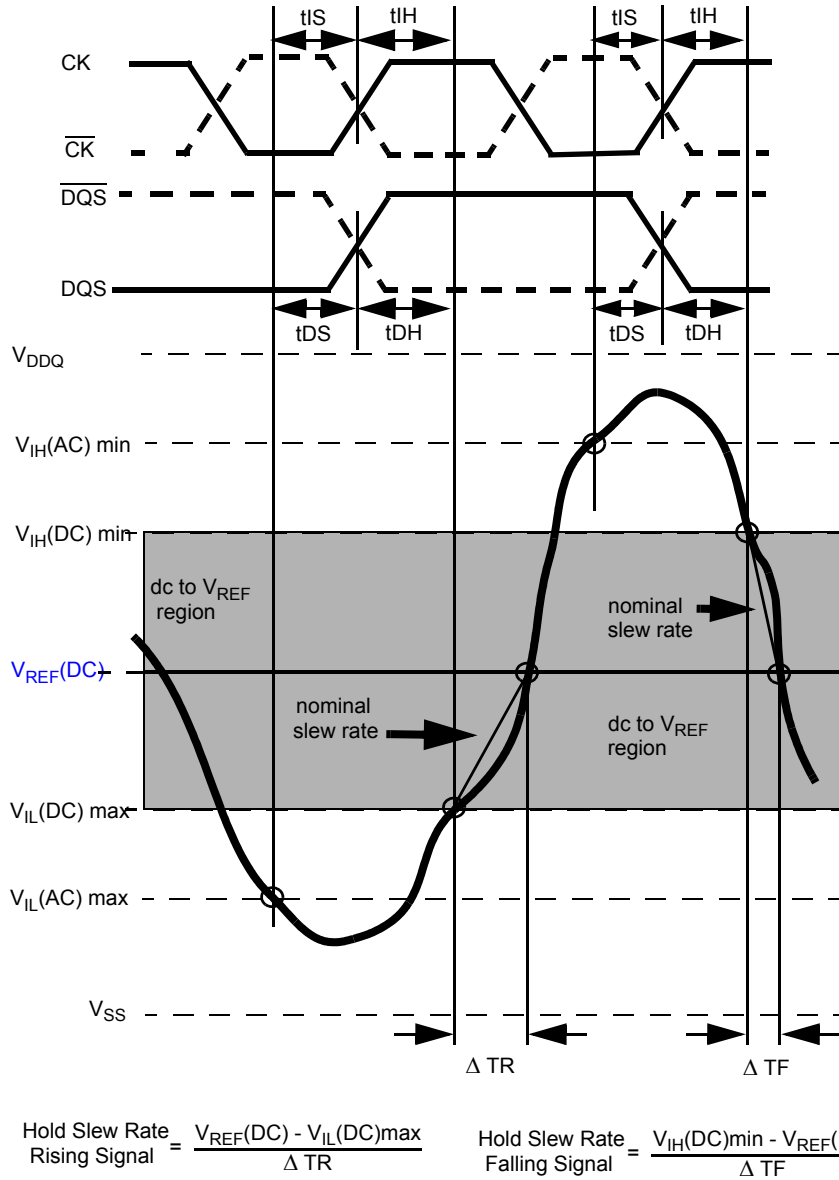

Figure 23. Illustration of nominal slew rate for hold time t_{DH} (for DQ with respect to strobe) and t_{IH} (for ADD/CMD with respect to clock).
Hold (tIH) nominal slew rate for a rising signal is defined as the slew rate between the last crossing of V_{IL}(DC)max and the first crossing of V_{REF}(DC). Hold (tIH) nominal slew rate for a falling signal is defined as the slew rate between the last crossing of V_{IH}(DC)min and the first crossing of V_{REF}(DC). If the actual signal is always later than the nominal slew rate line between shaded 'dc to V_{REF}(DC) region', use nominal slew rate for derating value (see Figure 23). If the actual signal is earlier than the nominal slew rate line anywhere between shaded 'dc to V_{REF}(DC) region', the slew rate of a tangent line to the actual signal from the dc level to V_{REF}(DC) level is used for derating value (see Figure 25).